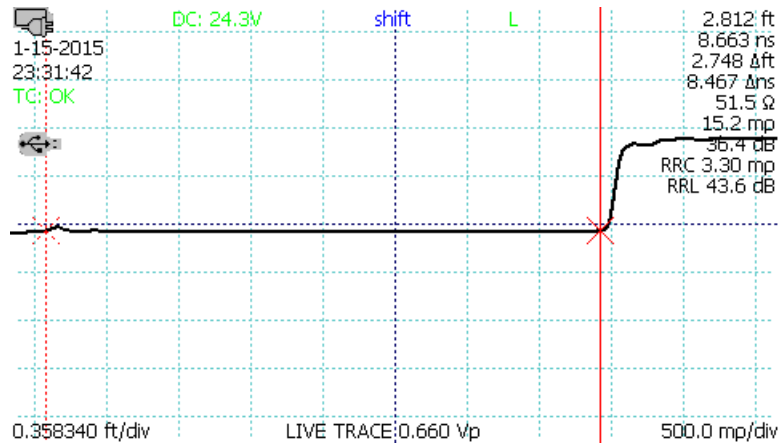

Figure 15: Screenshot showing *AUTOFIT* result.
- 3) Press the *AUTOFIT* button. The CT100 will now show the beginning and the end of the test cable (Figure 15). The cable end, in this case an open termination, has been found at 2.812 feet and the cable has been fit to screen.